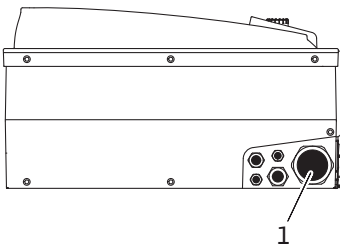

Fig. 23: Threaded cable connection M25/M40
- The power cable must be passed through the threaded cable connection M25/M40 (Fig. 23, no. 1).